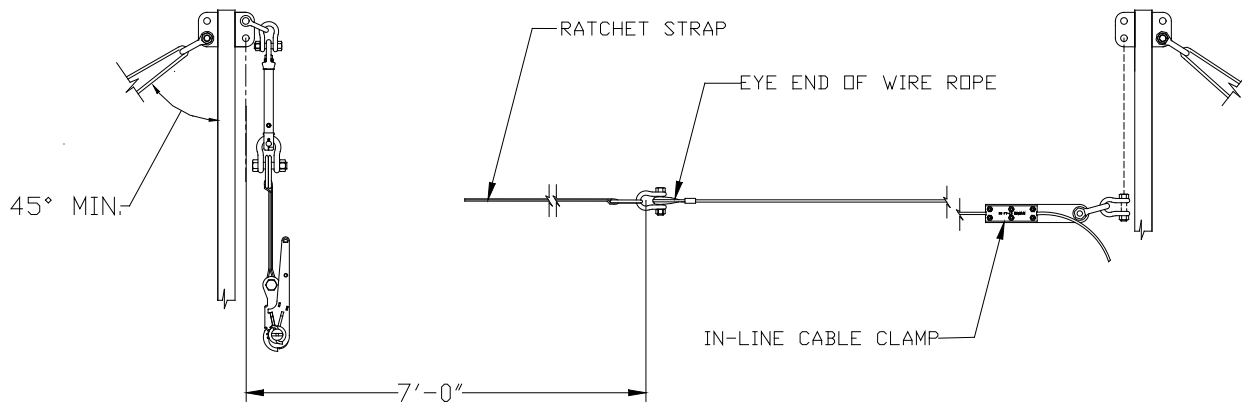

Figure 2
NOTE: The Ratchet Tensioner of the tie-back cable assembly MUST be placed so that the angle formed by the surface of the bridge beam and the tie-back cable is 45° OR MORE when measured from the vertical. This means that the Ratchet Tensioner MUST be attached to a loop of rebar that is located a distance away from the Receiver which is AT LEAST as far away as the Stanchion is tall to ensure that the tie-back angle is 45° or more when measured from the vertical, (see Figure 2).6
16. Position the eye end of the wire rope so that it is about 7-ft. (see Figure 2) away from the location of one of the end stanchions.
19. On the mark you have measured off, place the wire rope into the grooved lower plate of the In-line cable clamp. Insure that the end of the cable clamp with the hole in it is placed towards the free end of the wire rope (see Figure 2).